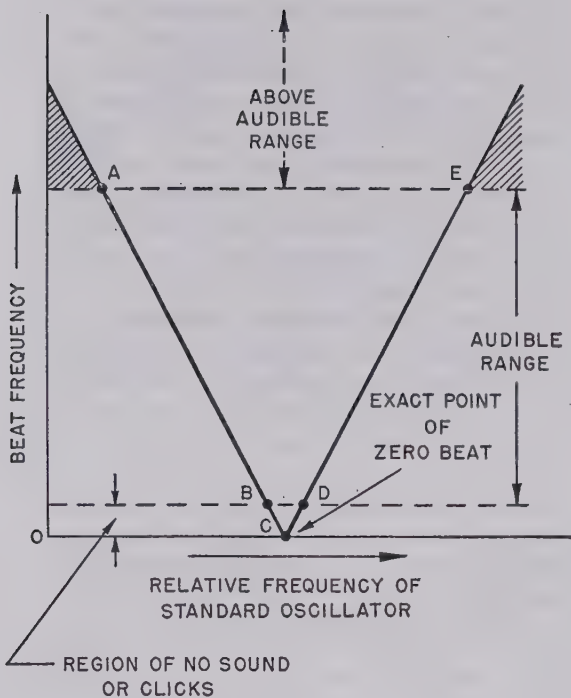

Figure 8. Beat-frequency chart.
- (2) Figure 8 shows a curve of the beat frequency plotted against the audible range of frequencies. When the difference frequency between the two signals is above the audible range, no sound is heard and the shaded area on the graph indicates the frequencies above audibility. As the two frequencies are brought closer to each other (A on the curve) a high-pitched note is heard in the headphones. This tone gradually decreases in frequency to a point, B, where it is replaced by a